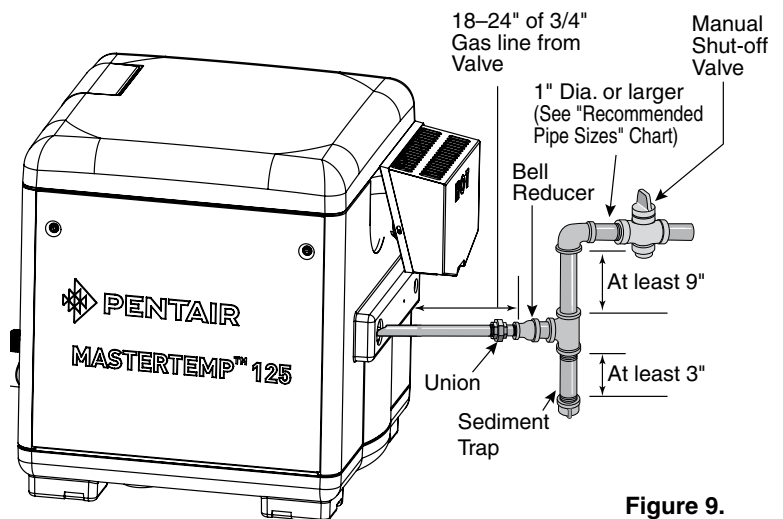

Figure 9.
Install a manual shut-off valve that conforms with **Type 1 or Type 2 as per AG201 and/or AS4617** standards and a sediment trap/drip leg and union located outside the heater panels, see Figure 9. Do not use a restrictive gas cock.
Install a sediment trap and union located outside the heater panels in accordance with National code requirements. Do not use a restrictive gas cock. The sediment trap shall be either a tee fitting with a capped nipple in the bottom outlet which can be removed for cleaning, as shown in Figure 9, or an other device recognized as an effective sediment trap. All gas piping should be tested after installation in accordance with local codes.
**CAUTION!** This appliance is equipped with an unconventional gas control valve that is factory set with a manifold pressure of  $11 \pm 5$  kPa. Installation or service must be performed by a qualified installer, service agency, or the gas supplier. If this control valve is replaced, it must be replaced with an identical control. The combination gas valve incorporates dual shut-off valves and a negative-pressure regulator. For proper operation, the regulated pressure at the outlet manifold of the valve must be  $11 \pm 5$  kPa below the reference pressure at the blower mixer inlet, and the gas valve 'VENT' tap must be connected to the end cap air orifice as shown in Figure 9 (page 16). **DO NOT attempt to adjust the gas input by adjusting the regulator setting. The correct gas regulator setting is required to maintain proper combustion and must NOT be altered.**